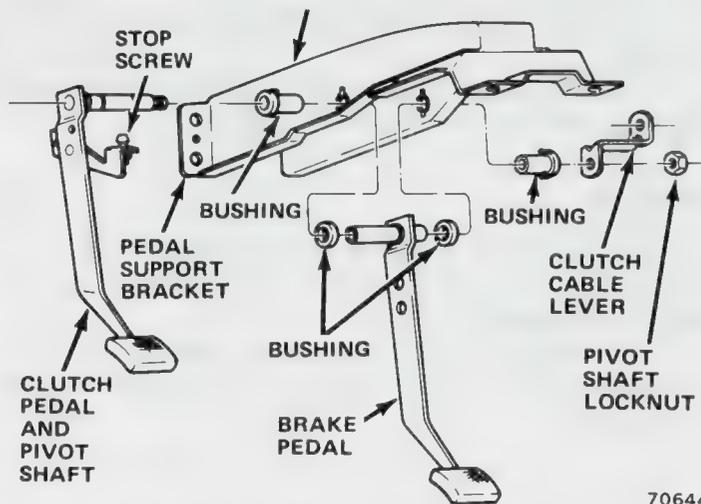

Fig. 2A-21 Clutch and Brake Pedal Assembly
(3) Install bushing on clutch pedal pivot shaft and insert pivot shaft through pedal support bracket (fig. 2A-21).